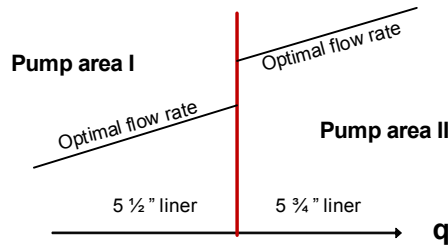
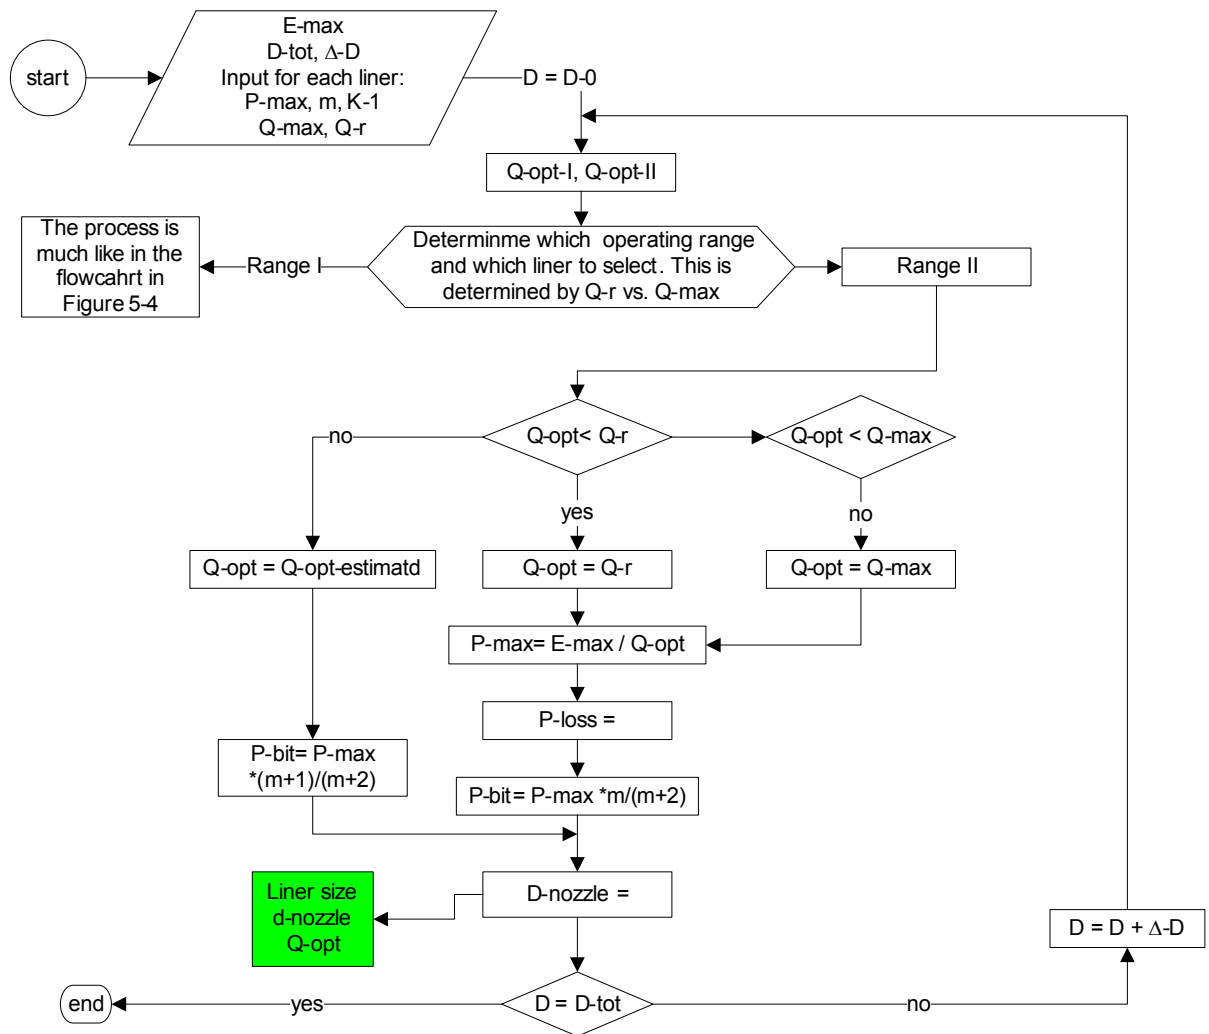

Figure 4-4: Boundary area between pump area II and I
Figure 4-5: Flow chart of estimating extended hydraulic parameters. In the upper part it distinguishes between the pump area ranges
b) In Figure 4-4 we see the division between the two pump areas. A preliminary solution to how to distinguish between them is given in Figure 4.5, its upper part.